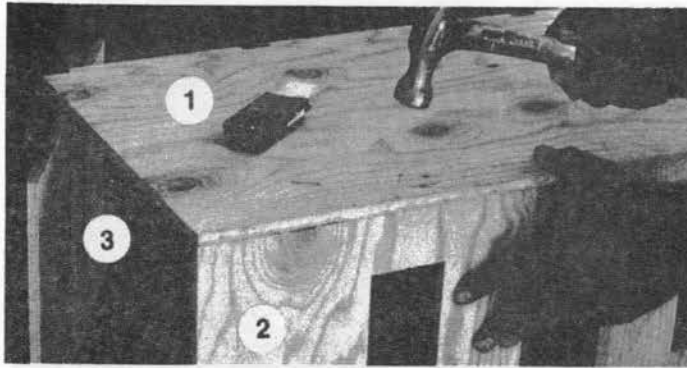

Fig. 8
Quickly assemble parts one and two pressing firmly into place (**FIGURE 8**). Keep bending and pressing the parts together until the hot glue "grabs" — in about 30 seconds. Make sure the parts are properly aligned and flush. Nail the joint with #18 by  $\frac{7}{8}$  inch long wire nails spaced about two inches apart.
You will note in (**FIGURE 8**) that one of the parts of equal height (3) works nicely as an aid in holding the parts properly aligned while assembling and nailing.